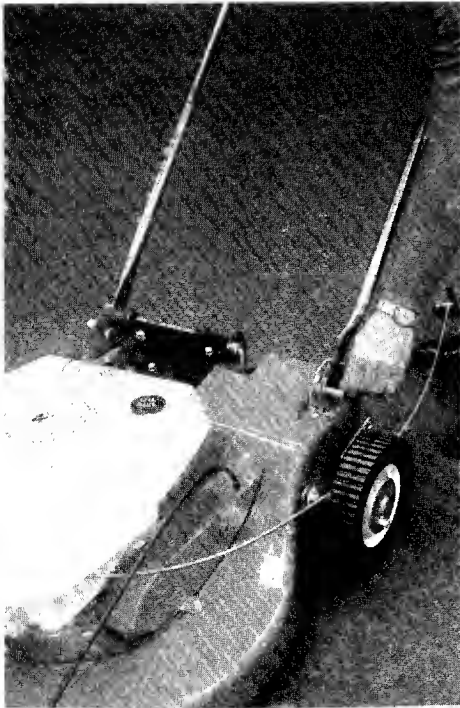

Figure 1
- 2 Attach the lower handle over the pins on the handle brackets located on the rear of the mower. (See figure 1.)